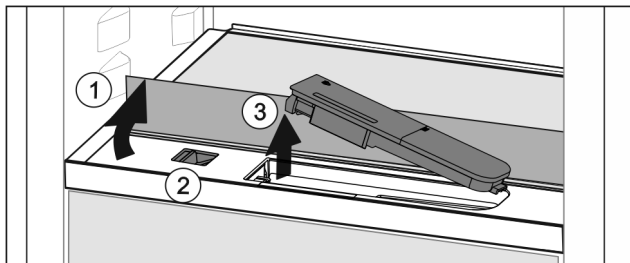

Fig. 104
- Lift the glass panel and fold towards the rear until it clicks into place Fig. 104 (1).
- Slide the slider Fig. 104 (2) to the left.
- Remove the water tank Fig. 104 (3).